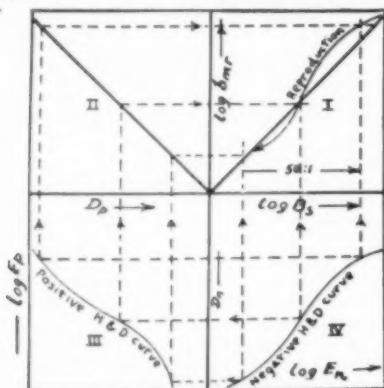

Figure 2 Halftone Reproduction in Lithography.
Typical continuous tone reproduction is illustrated in Figure 2. The distortion due to decreased contrast in the highlights is apparent in the negative and it is aggravated by each succeeding photographic operation. It is the correction of this distortion which tone control techniques in continuous tone photography try to achieve. Reasonable success has been obtained by the use of photographic masks (6). Masking, however, is a subject in itself. Suffice it to say that most of the problems of tone reproduction in continuous tone photography can be solved by the intelligent use of photographic masks. Lithographers have realized this and masking is just beginning to perform some of the tone correction previously done exclusively by handwork.